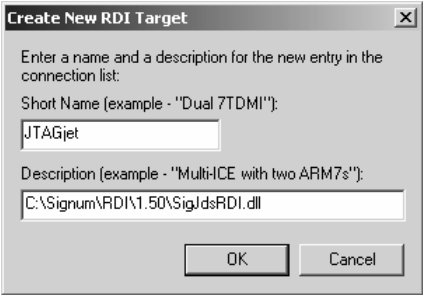

FIGURE 7 Naming and describing the new target connection.
4. Enter a name and description for the new target connection (Figure 7). Click OK.